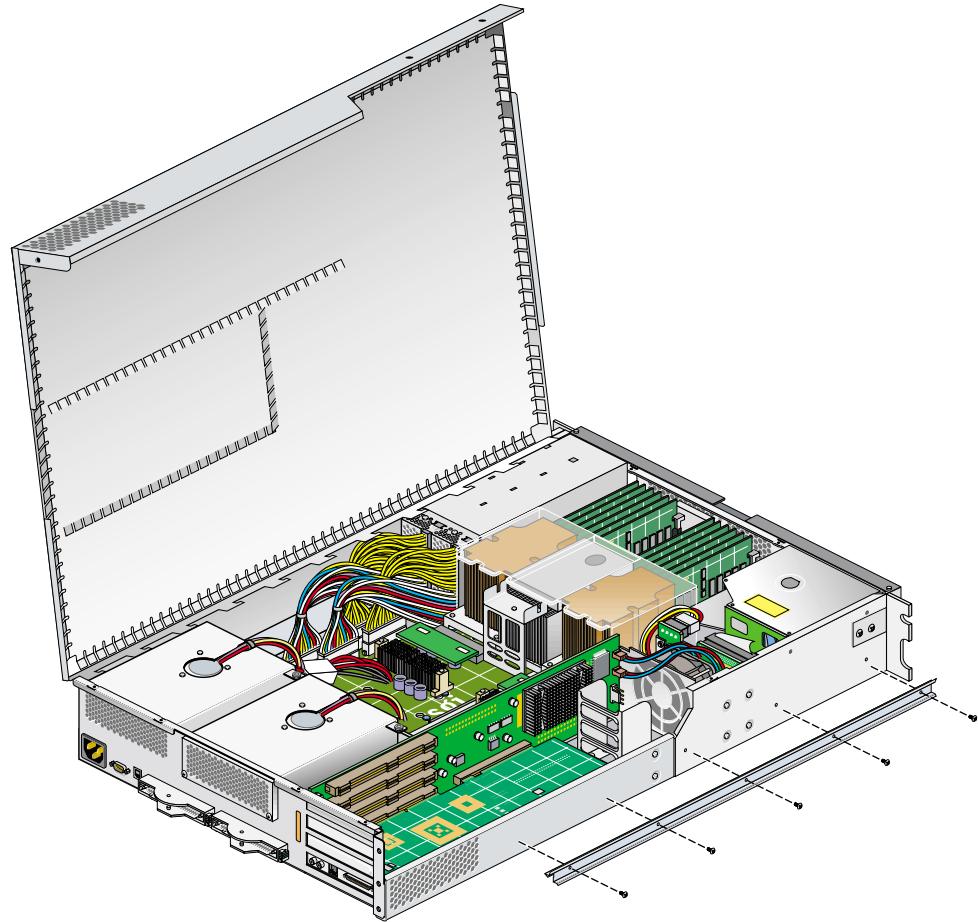

Figure 4-16 Replacing the Optional Chassis Rail
15. Replace the optional chassis rail (if applicable), by attaching the five Phillips screws, as shown in Figure 4-16.
5. Replace the optional chassis rail (if applicable) by screwing in the five Phillips screws. Reference Figure 4-16 if necessary.